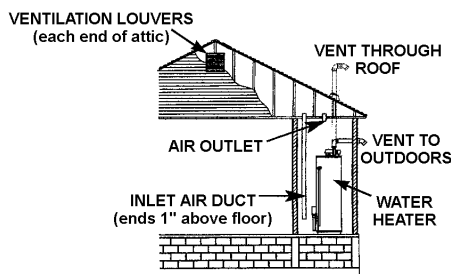

FIGURE 13.
2. When communicating with the outdoors through vertical ducts, each opening shall have a minimum free area of 1 square inch per 4,000 Btu per hour (5.5 cm2/kW) of total input rating of all equipment in the enclosure, see Figure 13.